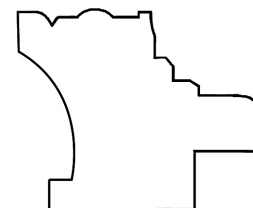

Figure A-8 Finished end view
**STEP EIGHT:** You can use the upcut spiral bit to cut the inside edge of the frame (Fig A-8). If you choose to cut the edge this way (as opposed to using a table saw) you must cut through the piece in several small passes so as not to load the bit.